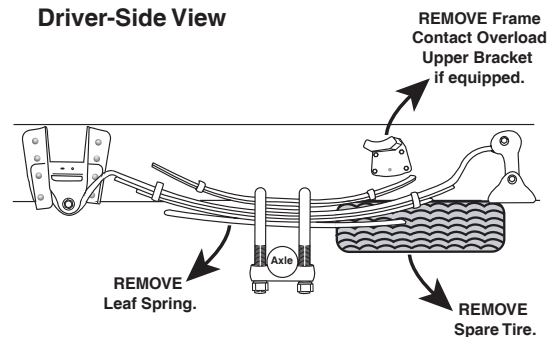

Figure 2
2. Remove the spare tire, both leaf springs, and the rear frame contact overload brackets, if equipped, from the frame (Figure 2).